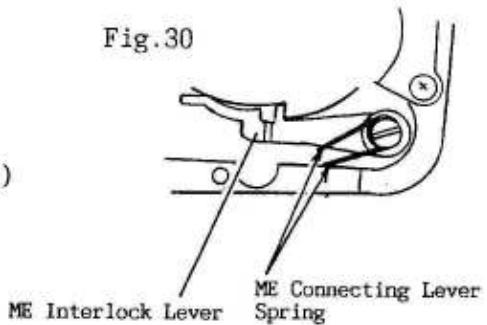

Fig.30
- 35) Set the ME Connecting Lever Spring as shown in Fig.30.